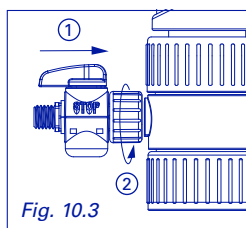

Fig. 10.3
- ② Mount stopcock on dispenser (Fig. 10.3)